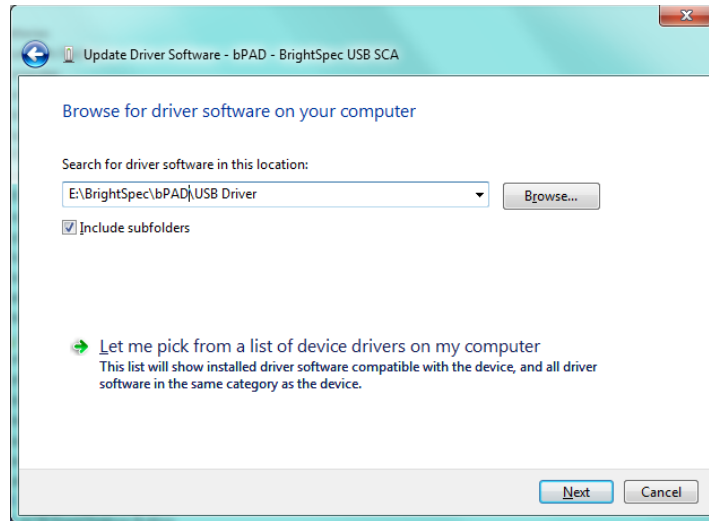

Fig. 2 – Browse to the distribution driver folder
3. When the next step window appears (Fig. 2):